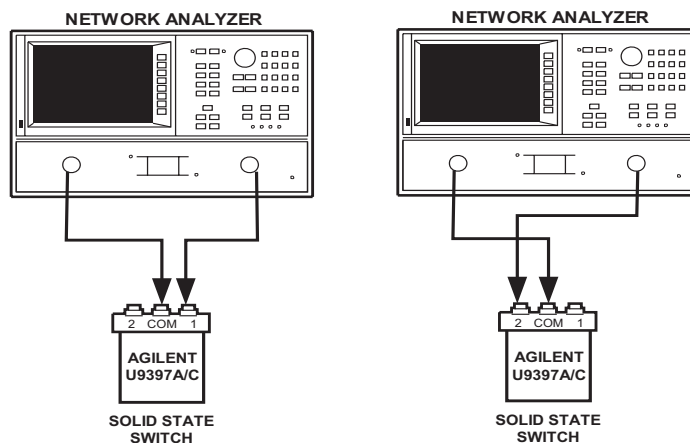

Figure 4 Connection to Perform Quick Check
1. Connect RFCOM of the switch to Port 1 of the network analyzer and either RF1 or RF2 to Port 2 as illustrated in Figure 4.